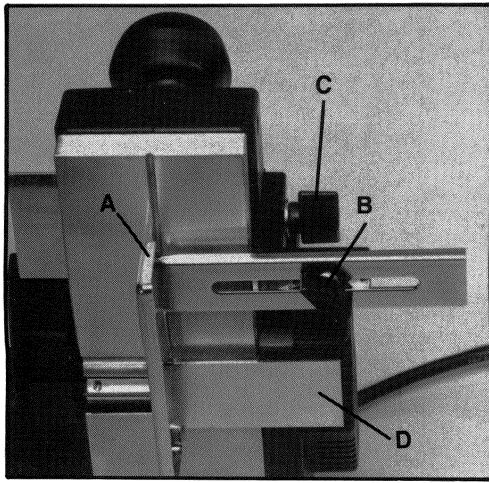

Fig. 4
The plane is equipped with an adjustable fence (A) Fig. 4. The fence is used to guide the plane when edge planing. The fence may be adjusted by loosening knob (B) Fig. 4, and sliding the fence to the desired position. Tighten knob (B) securely to hold the fence in position.
The fence includes a cutter guard (D) Fig. 4. The fence should be adjusted to expose only the portion of cutter required for the operation being performed.
When surface planing, the fence assembly may be removed by removing thumbscrew (C) Fig. 4.